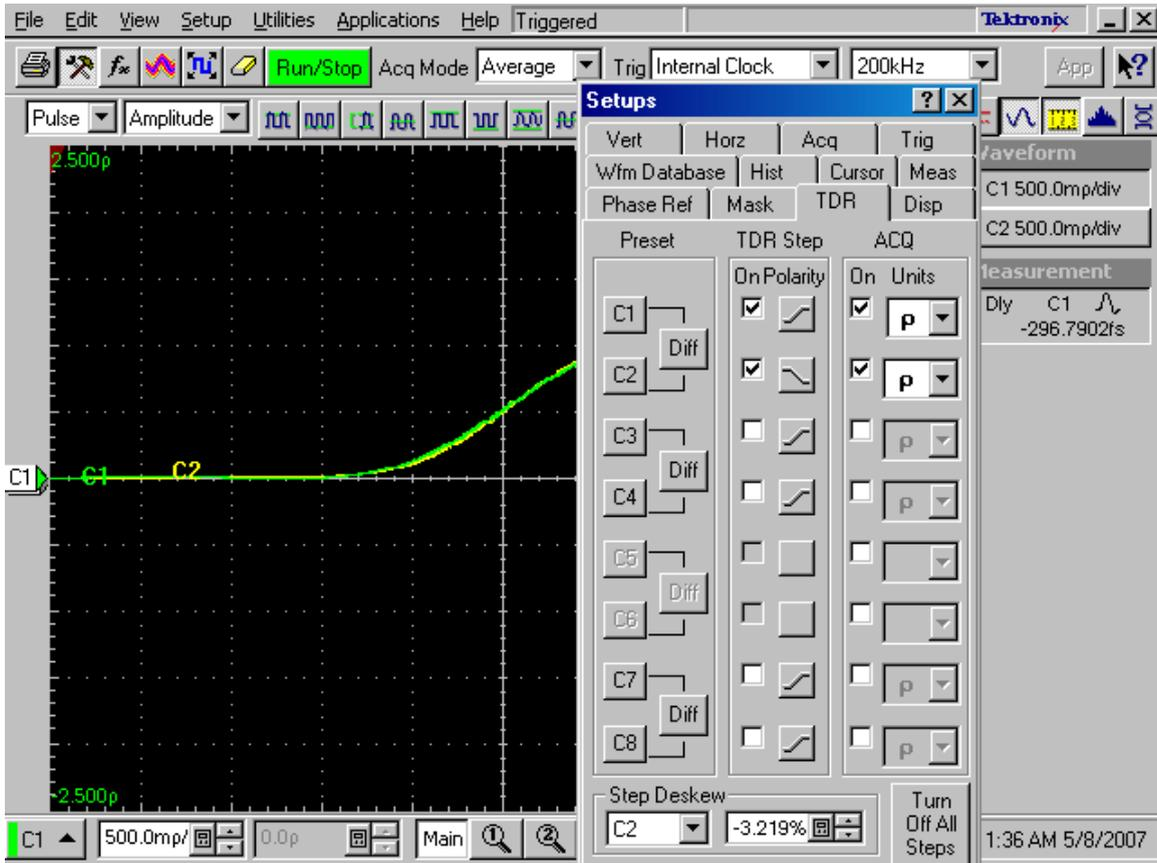

Figure 4 Differential TDR step deskew. The channels C1 and C2 are aligned within ~300fs.
4. Adjust the *Step Deskew* in TDR menu to minimize the time difference between the C1 and C2 pulses. You might want to activate *Fine* button to reduce the increment of deskew as shown in Figure 4.